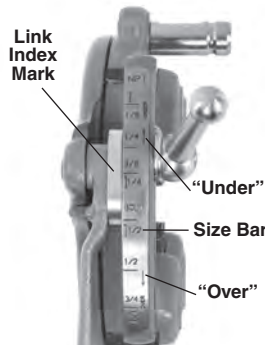

Figure 8 – Adjusting Thread Size
3. Start with link index mark aligned with desired size mark on size bar. On Mono and Bolt die heads, set link mark at line in size bar. For bolt threads with Universal die head, set all bolt dies at BOLT line on size bar (Figure 8).